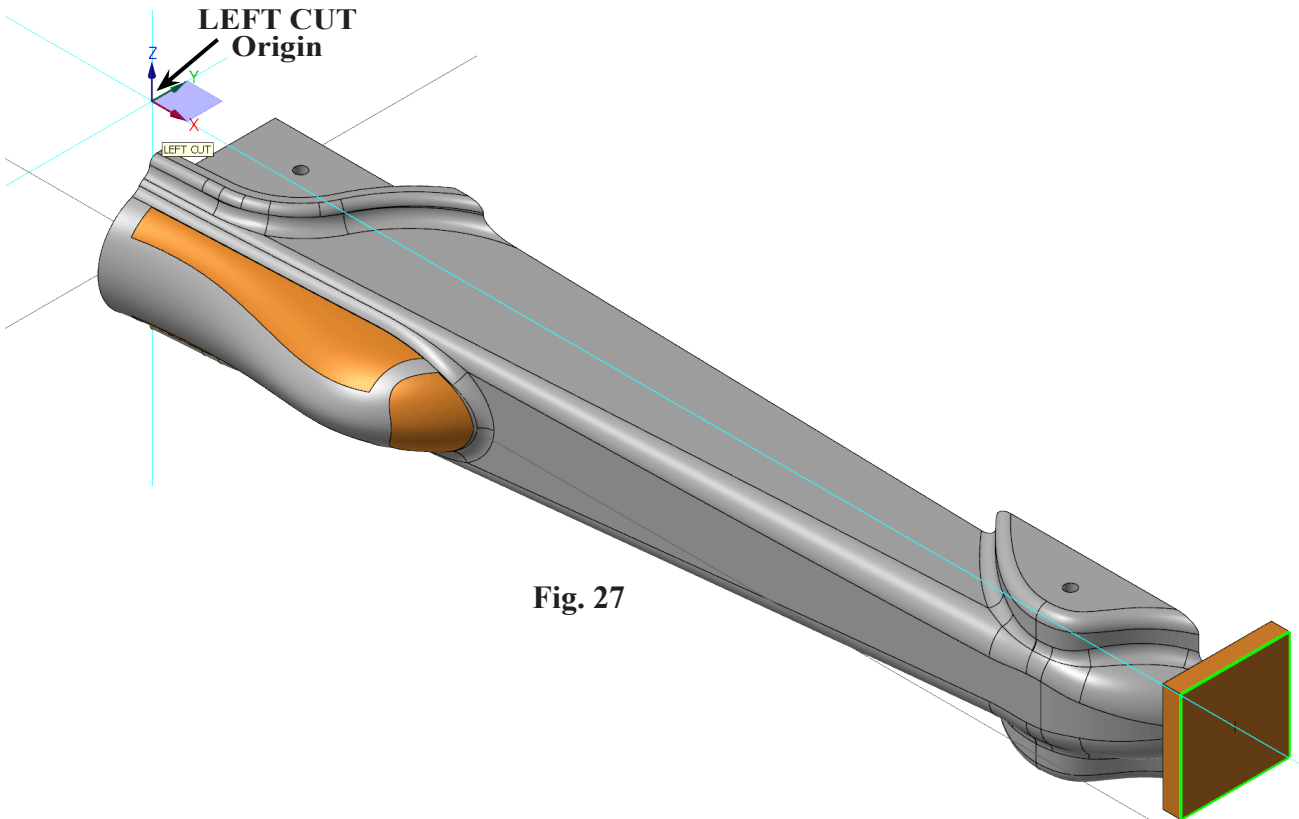

Fig. 27
Step 7. Confirm the origin. Use **F9** to show the axes, **Fig. 27.**